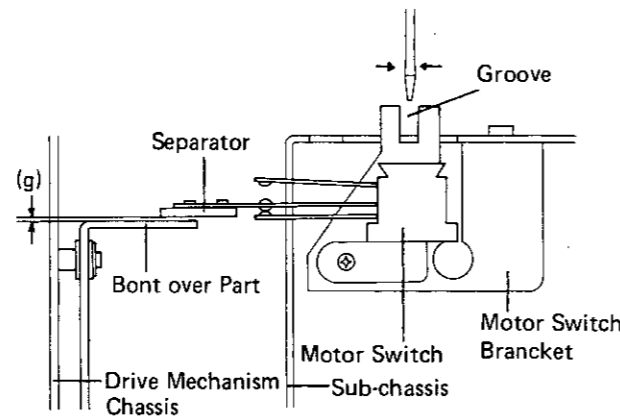

Fig. 10
3. If the gap is too large or too small, insert a flat-bladed screw driver into the groove in the motor switch bracket, and swing it back and forth a few times (see Fig. 10).